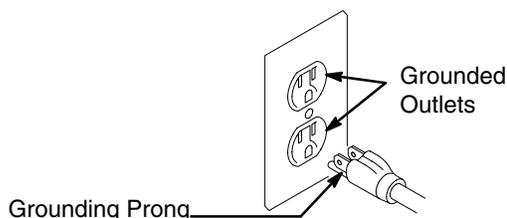

Fig. 2
- a. This equipment requires a 120 Vac, 60 Hz, 15A circuit with a grounding receptacle. See Fig. 2.